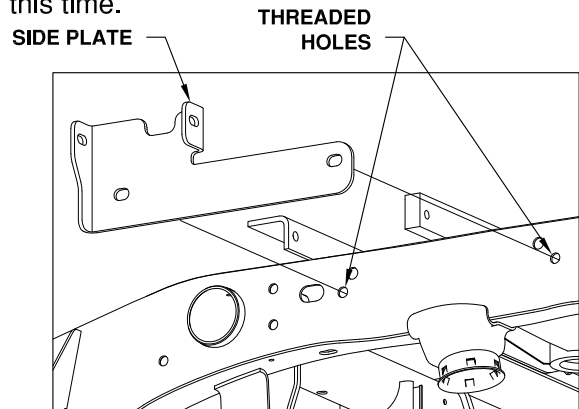
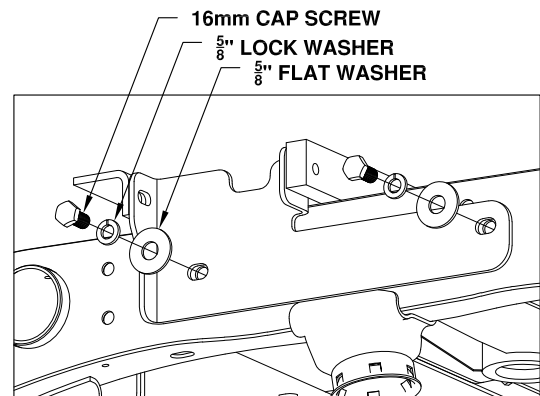
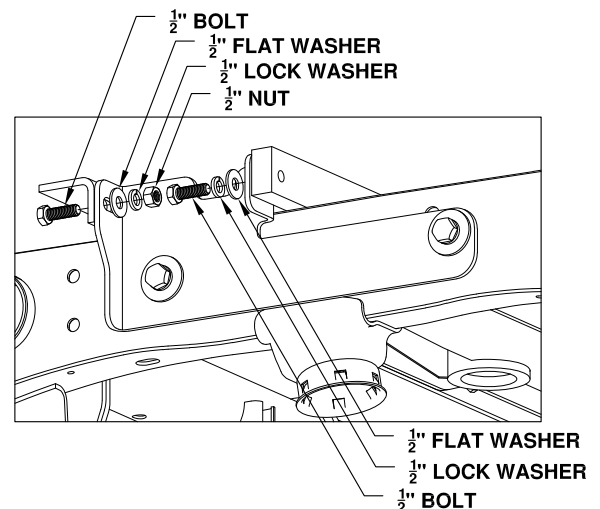

Figure C1: View from outside of Driver Side Frame
Figure C2: View from outside of Driver Side Frame
Figure C3: View from outside of Driver Side Frame
1. **Install the side plates.** Place each side plate against the frame so that the flanges are between the front and rear cross member, see Figure C1. Attach each side plate to the frame with two 16mm cap screws, $\frac{5}{8}$ " lock washers and $\frac{5}{8}$ " flat washers. The 16mm cap screws will screw into pre-existing threaded holes in the frame, see Figure C2. Attach the side plate to the front and rear cross members with $\frac{1}{2}$ " Bolts, flat washers, lock washers and nuts, as shown in Figure C3. Do not fully tighten the side plate hardware at this time.